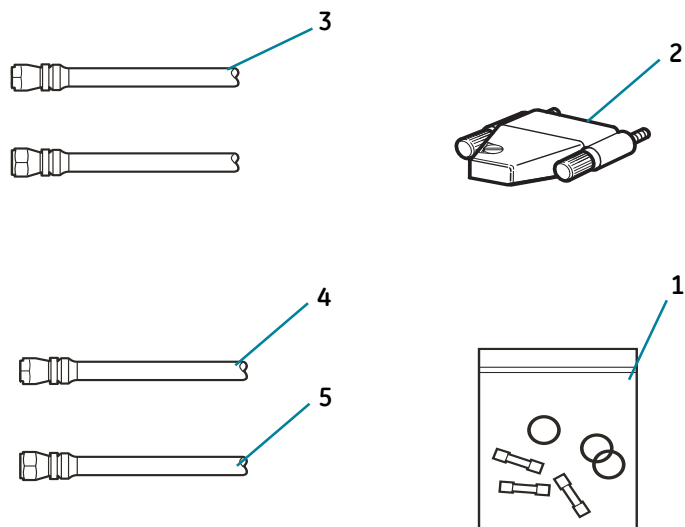

FIGURE 2-1 PARTS ILLUSTRATION
- viii) Kit, fuse/o-ring (also see Figure 2-1, item 1)
**Note:** Only replace the fuse with the correct type, see Figure 2-1, item 1. To replace the fuse see, Section 4-5.
- Fit the expansion port plug (Figure 2-1, item 2) to the rear panel expansion port.